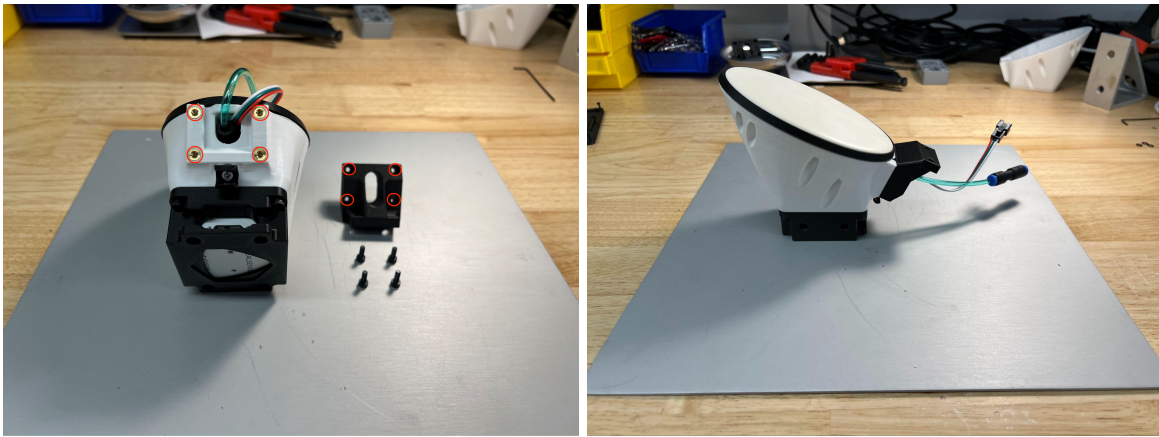

Figure 80: Locations and fasteners necessary to attach the *Gripper Finger-Mount WSG 050-110* to the *Bubble Gripper Body*
14. Insert four M3 washers and four M3 x 8mm socket head cap screws into the holes circled in red to attach the *Gripper Finger Mount for WSG 050-110* to the *Bubble Gripper Body* (Fig. 80).